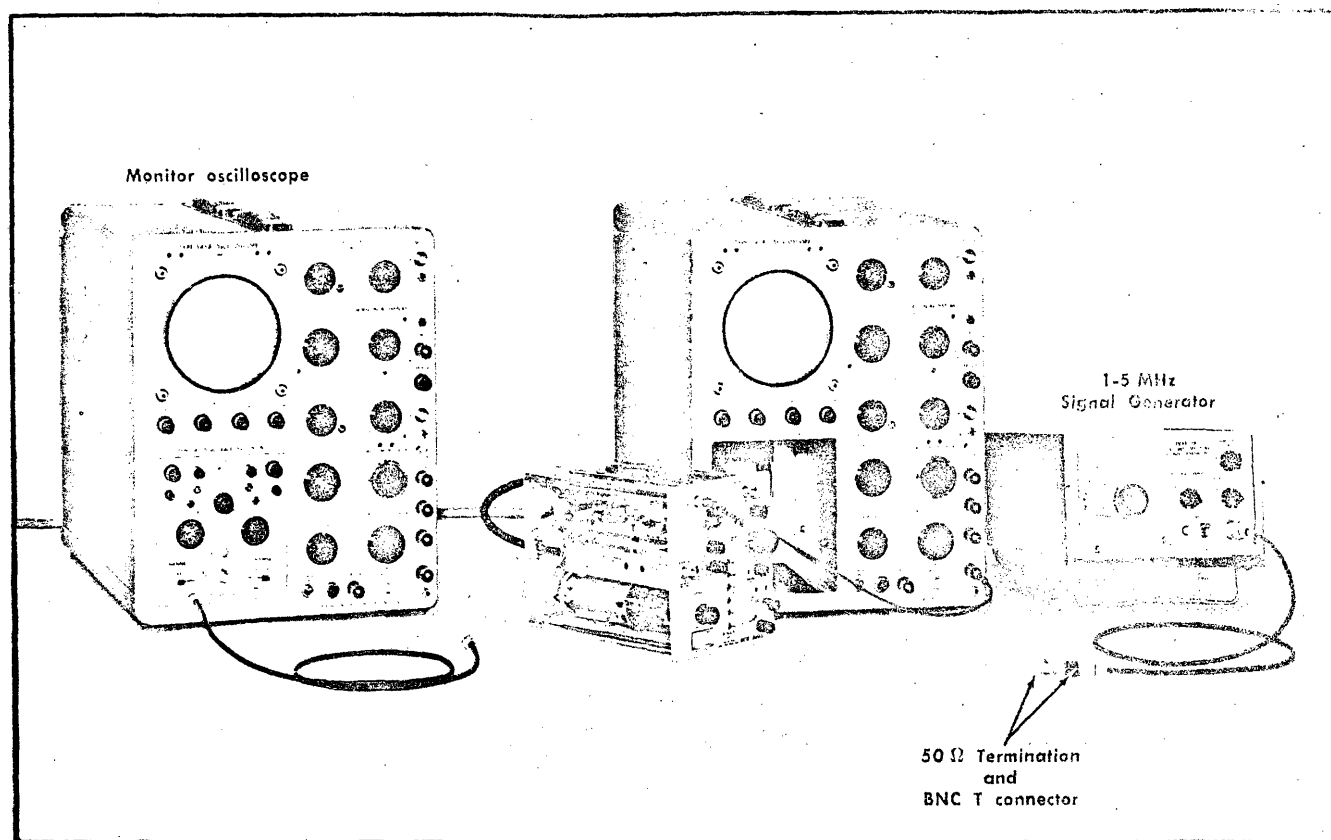

Fig. 6-16. Equipment setup to adjust avalanche voltage, 1 MHz internal reference frequency and check 1 MHz to 5 MHz external reference frequency range.
a. Equipment setup is shown in Fig. 6-16.